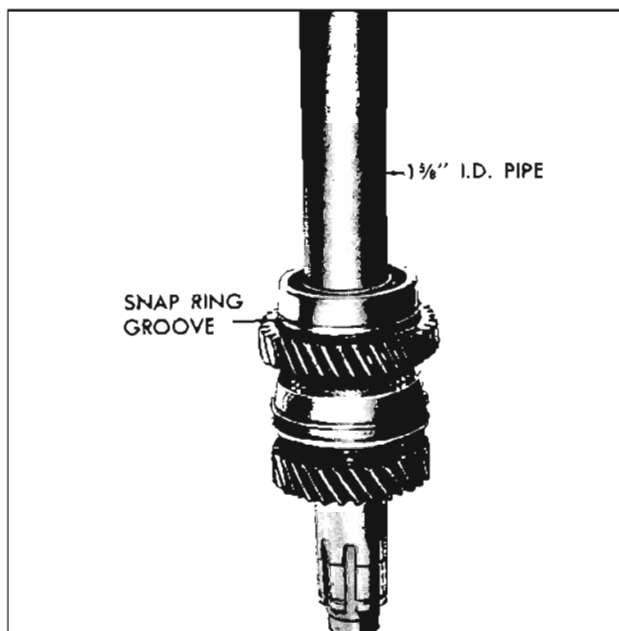

Fig. 7-218 Installing Rear Bearing
4. Using 1-5/8" ID pipe cut to a suitable length, press on the rear bearing with the snap ring groove toward the front of the transmission. (Fig. 7-218) Firmly seat the bearing.